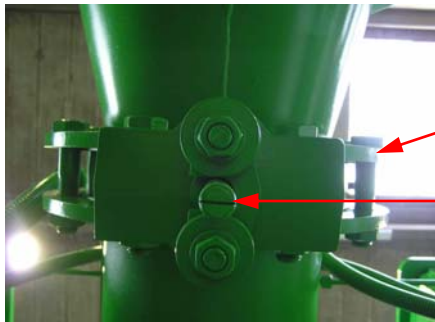

Figure 2: Flap shaft in the *close* position
- Put flap in the *close* end position by means of the hand wheel on the drive (see Figure 2)
➤ Put flap in the *close* end position using the hand wheel on the drive (see Figure 2)